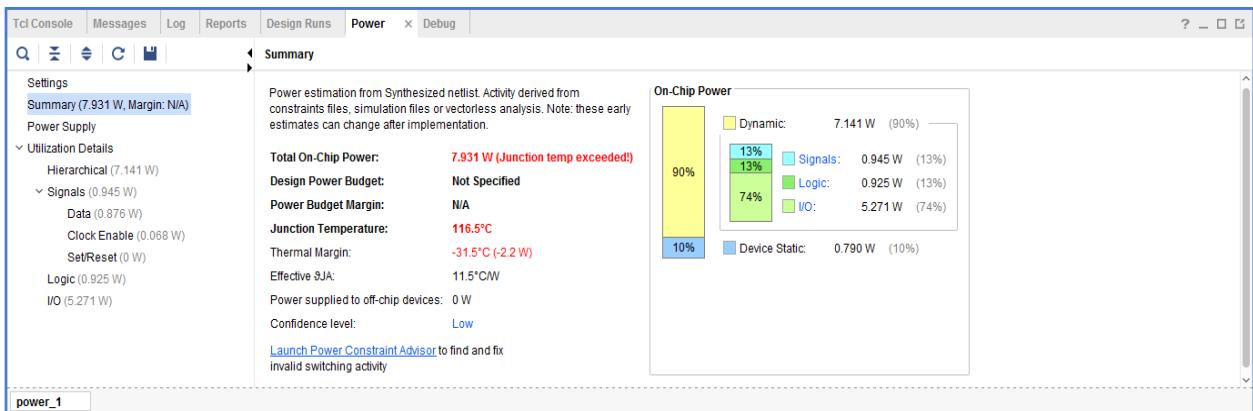

Figure 6.17: Power Report
- **Report Power:** Provides detailed power and thermal analysis reports that can be customized for the power supply and application environment, see Figure 6.17. This report estimates power at every stage after synthesis process. Perform also what-if analysis by varying switching activity.